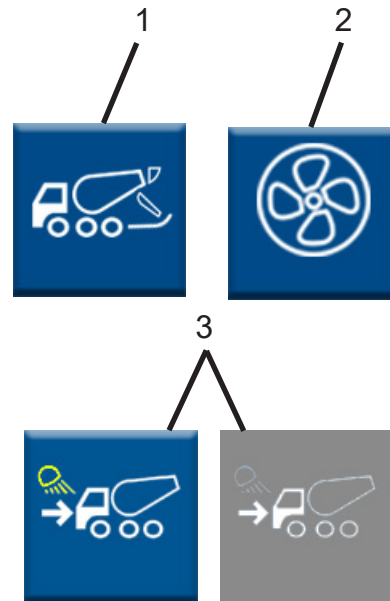

Figure 23
- Remote PTO mode (Figure 23, Item 1). The icon will be grayed out if not turned on.
- Hydraulic Fan (this function is already engaged if the temperature is over 140°F) (Figure 23, Item 2). The icon will be grayed out if not turned on.
- Work Lights ON in Reverse (Figure 23, Item 3). Use work lights on in reverse at a job site only. Using work lights on in reverse while on the roadway is not recommended and may not comply with applicable laws. The icon will be grayed out if not turned on.